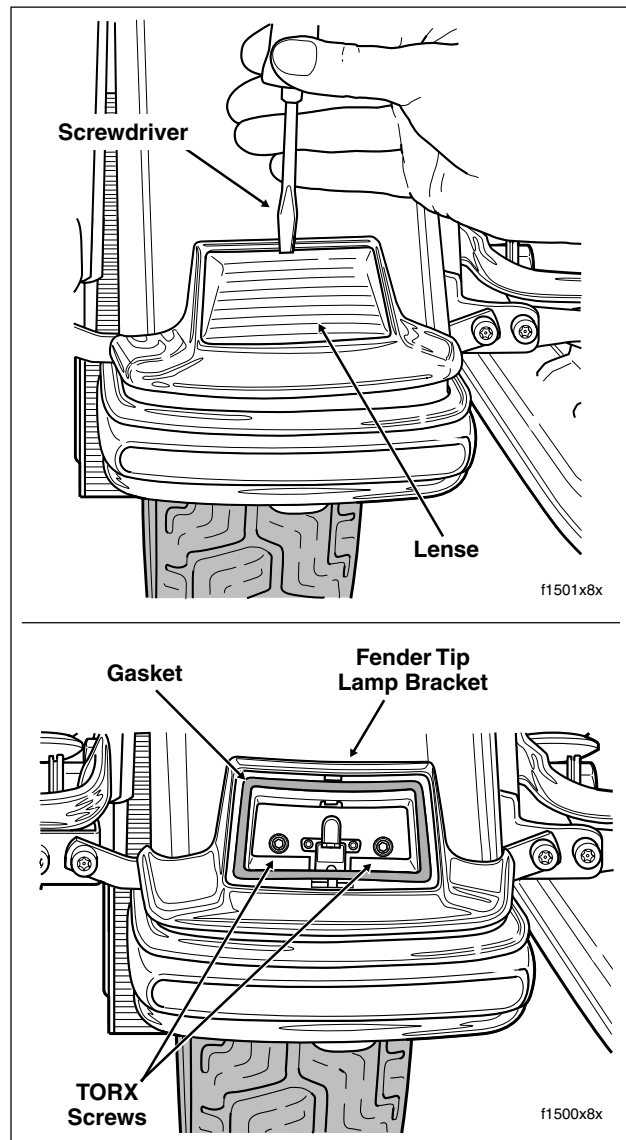

Figure 8-49. Remove Rear Fender Tip Lamp Lens and Bracket
5. Insert blade of small screwdriver into slot at top of fender tip lamp lense. Rotate end of screwdriver to unsnap lense from lamp bracket. See upper frame of Figure 8-49.
6. Remove gasket from fender tip lamp bracket, if present. See lower frame of Figure 8-49.
6. Place gasket into position on fender tip lamp bracket, if present. See lower frame of Figure 8-49.